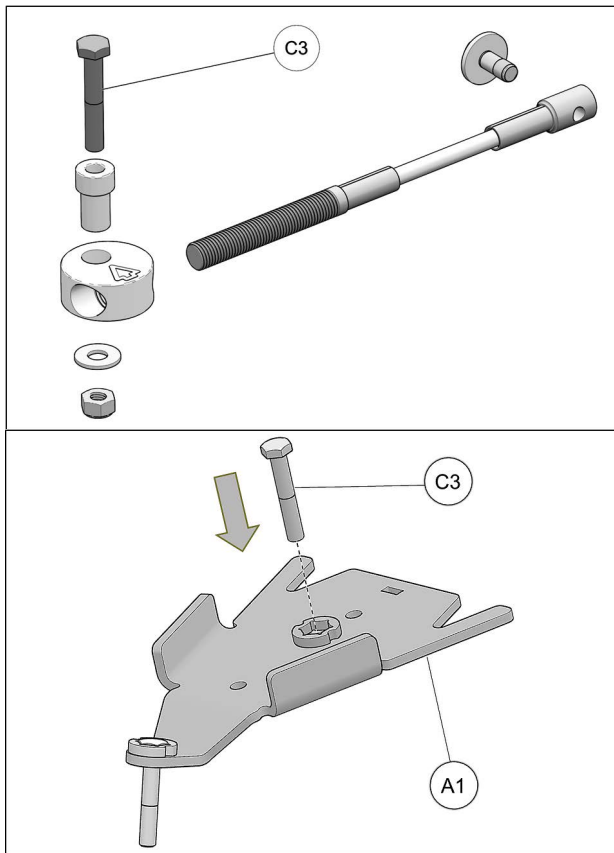

Fig. 26
9. Retrieve the M10x60mm bolt (C3) from the Steering Limiter assembly and insert it in the front anchor bracket (A1) as shown in Fig. 26